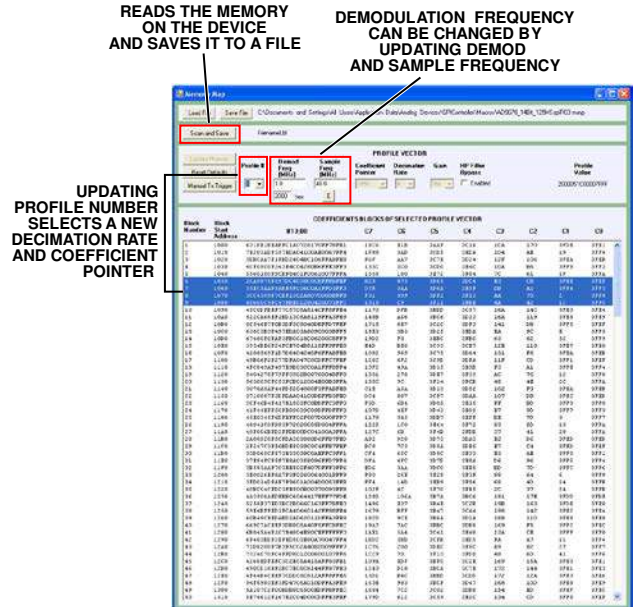

Figure 3. Memory Map Window
5. From the **Config** menu, click **Launch Memory Map Dialog** to open the **Memory Map** window, as shown in Figure 3. Click the **Load File** button to open the AD9670\\_14bit\\_125MSspiR03.mmp file, which loads the coefficient and profile memory data into the AD9670.